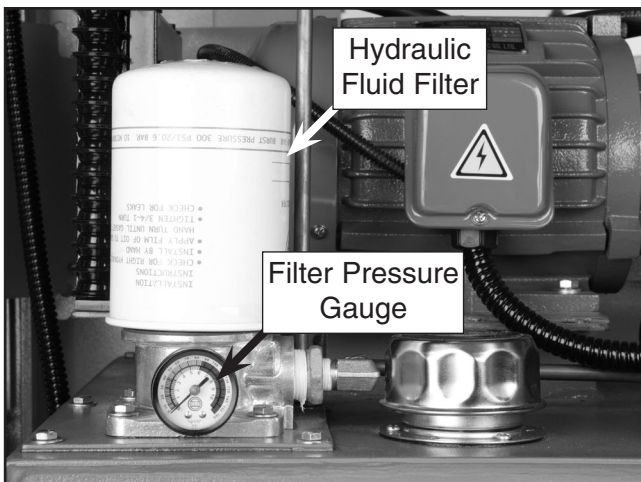

Figure 49. Hydraulic fluid filter.
4. Remove the filter shown in **Figure 49**. Replacement filter kits can be ordered from Grizzly Industrial using part number P0503B74.